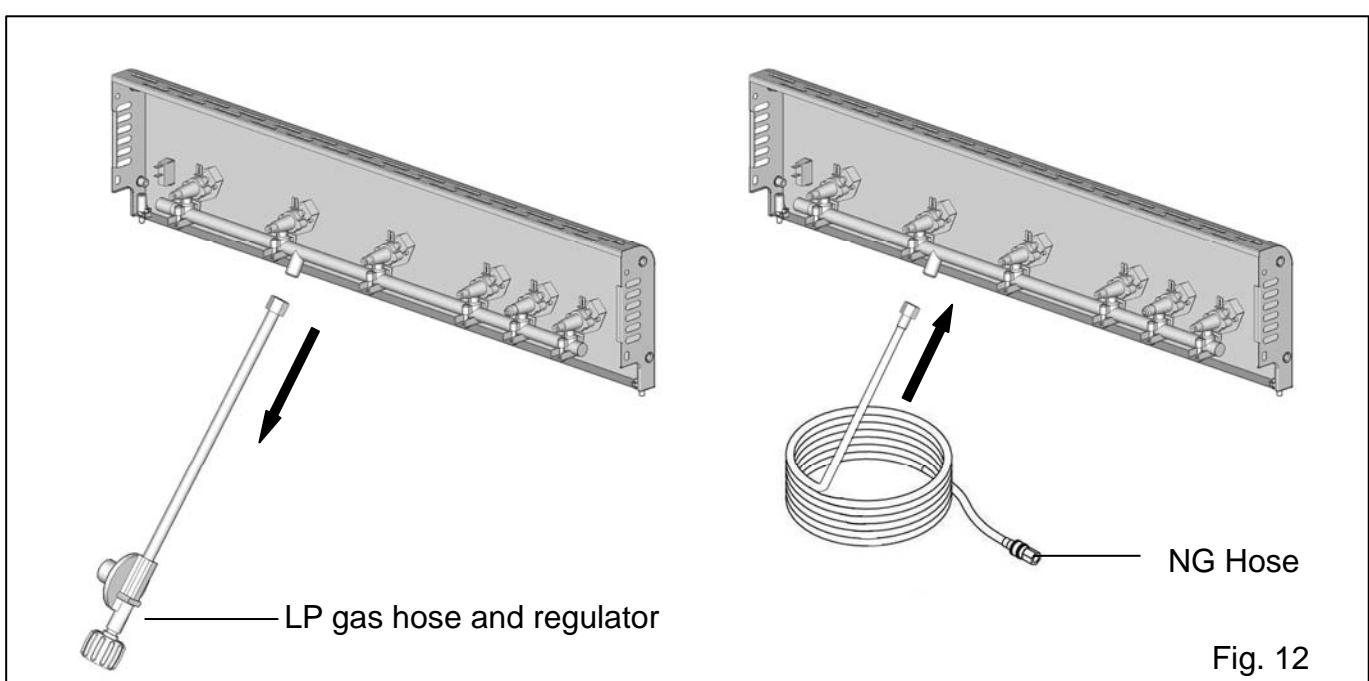

Fig. 12
- Remove the LP gas hose and regulator using a wrench, and attach the natural gas hose in it's place. (Fig. 12)